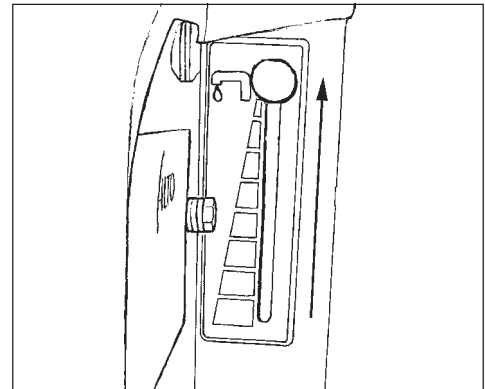

Figure 49
3. Close the solution flow valve by sliding it to its up most position (see figure 49).